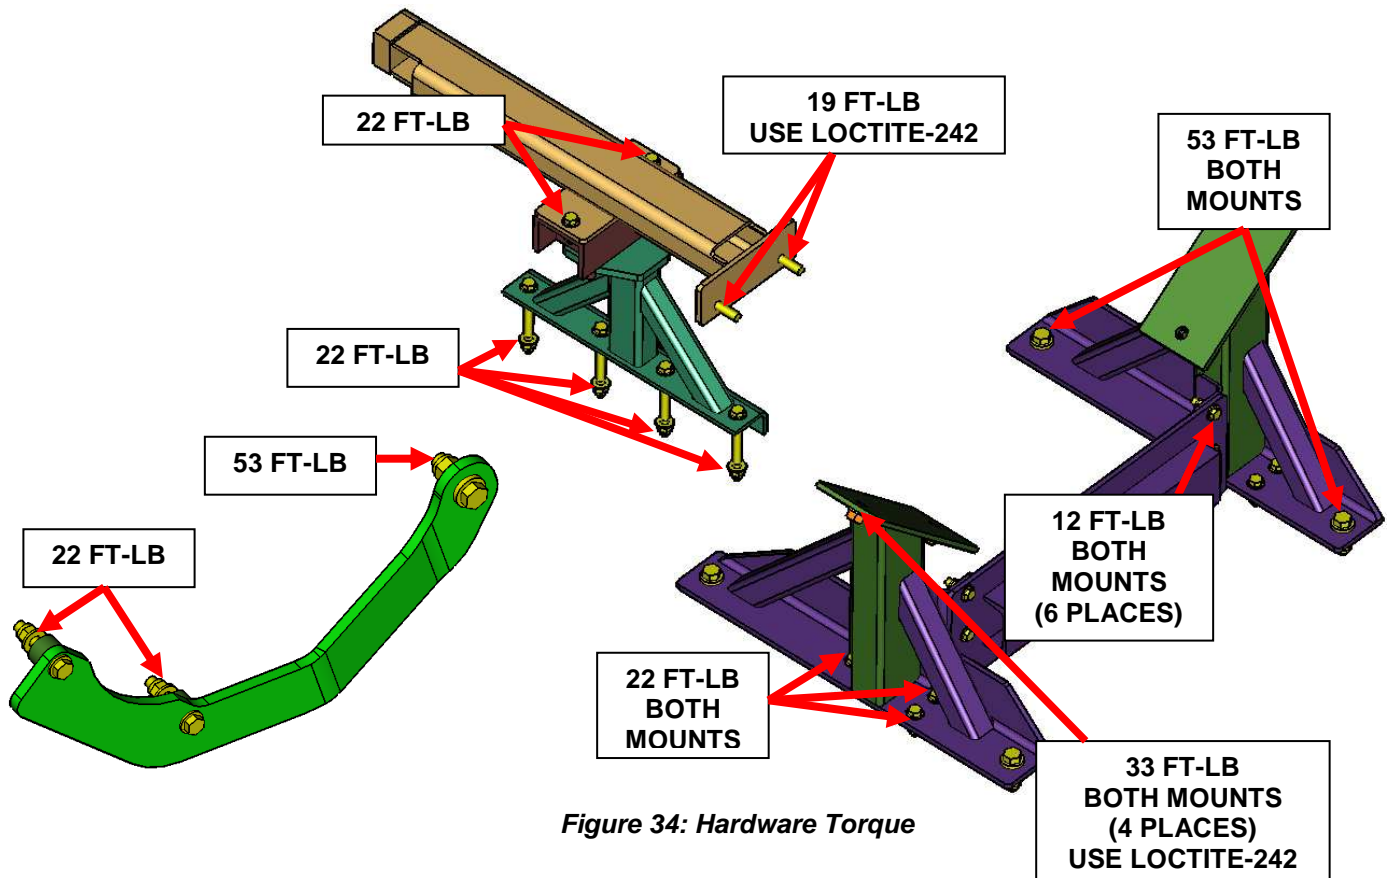

Figure 34: Hardware Torque
- a. Torque all hardware and use Loctite-242 NFI PN 8110440 per Fig 34.